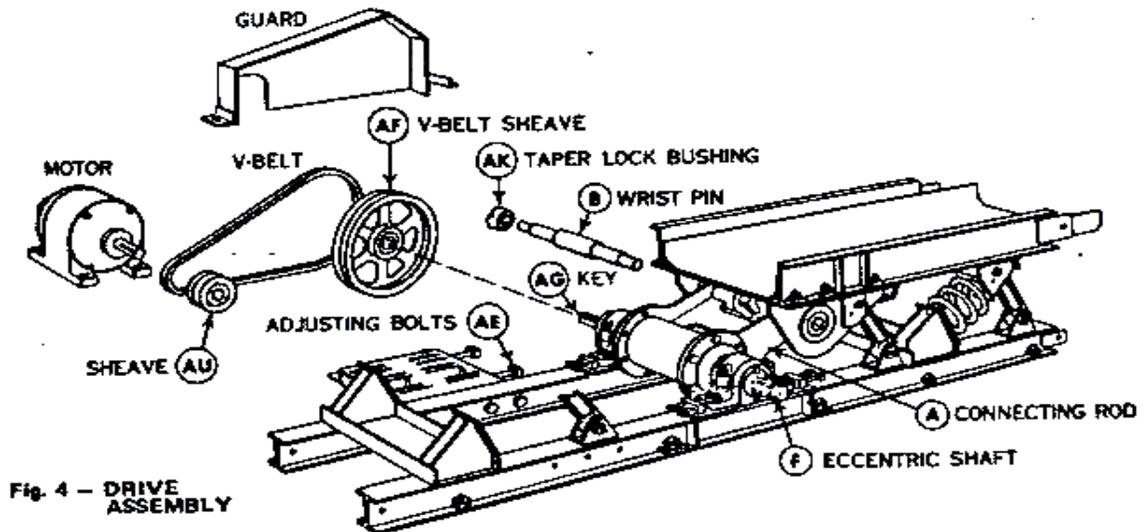

Fig. 4 - DRIVE ASSEMBLY
11. Assemble sheave AU to motor and align with driven sheave AF. Figure 4, Page 4.